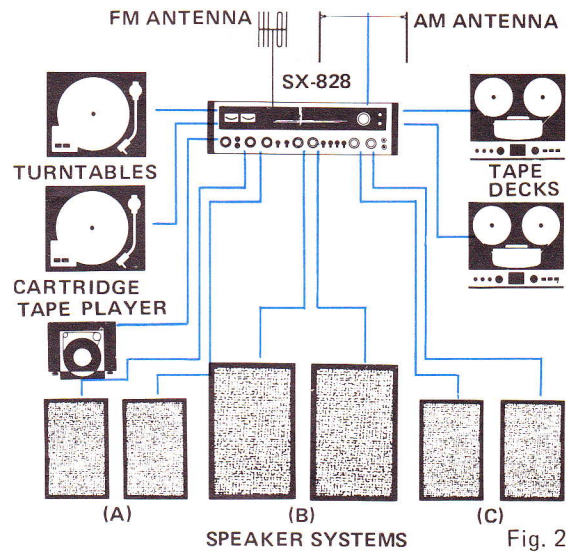

Fig. 2
- Model SX-828 is a Stereo Receiver, i.e. it combines an AM/FM stereo tuner, a preamplifier and a power amplifier in one unit. To obtain a complete stereo system, it can be combined with 2, 4 or even 6 speakers, 1 or 2 turntables, 1 or 2 tape decks, etc. See Fig. 2.